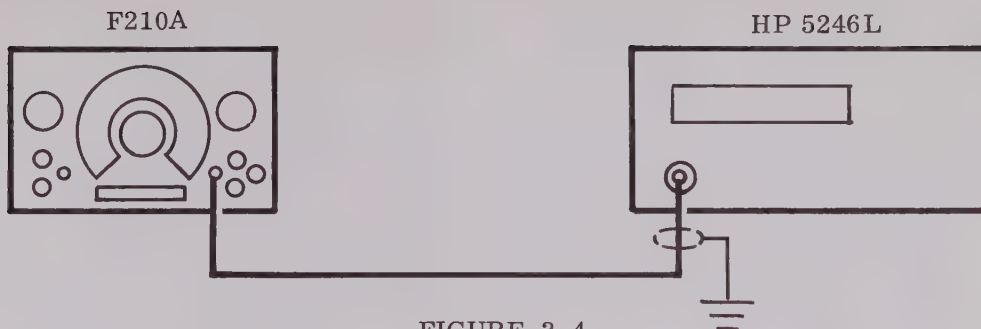

FIGURE 3-4
30. Interconnect the equipment as shown in Figure 3-4, observing signal and ground connections carefully.